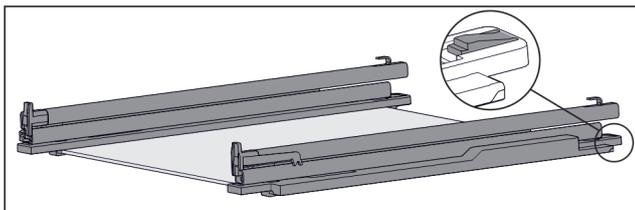

Fig. 110 Glass shelf with rails and retaining parts
- ▶ Press down retaining part at the rear (see *Fig. 110*) and at the same time push the rail back.